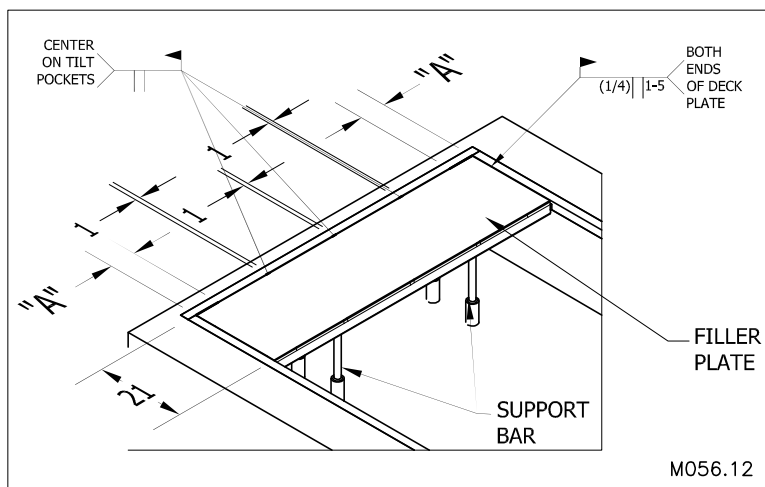

Figure 30: Installing the filler plate
11. ☐ Place the filler plate on top of the rectangular tubes as indicated in "Figure 30: Installing the filler plate" on page 26 making sure the filler plate sits flat and square to the rear and side curb angles.
12. ☐ Weld 1 inch butt weld at the mark off locations on the deck plate as indicated in "Figure 30: Installing the filler plate" on page 26.